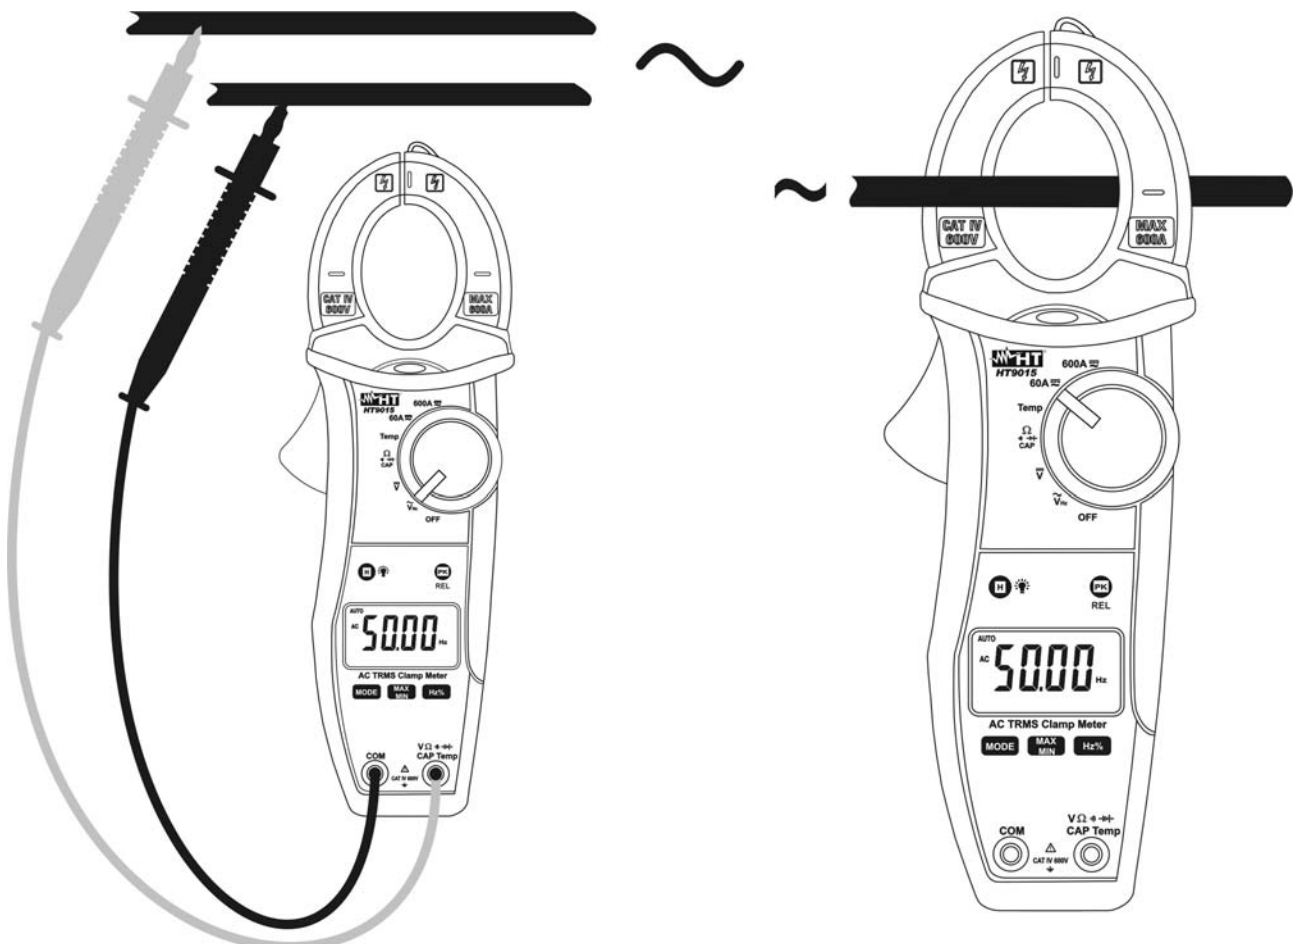

Fig. 15: Taking frequency and duty cycle measurements
3. Insert the red test lead plug into **V Ω \rightarrow CAP Hz % Temp** jack and the black test lead plug into **COM** jack (see Fig. 15 – left side) for frequency measurement with test leads. Open the clamp and put the conductor to be tested in the middle of the clamp jaw (see Fig. 15 – right side) for frequency measurements with jaws, then reading will be displayed. Bargraph is disabled in frequency and duty cycle test